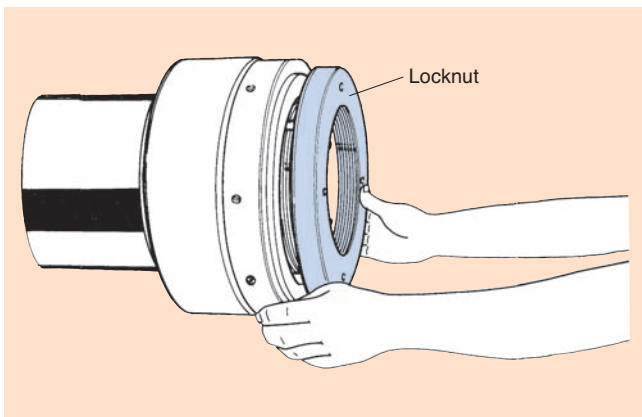

Fig. 30
(2) After installing the hydraulic nut, install a locknut that suits the installation shaft as shown in Fig. 30.